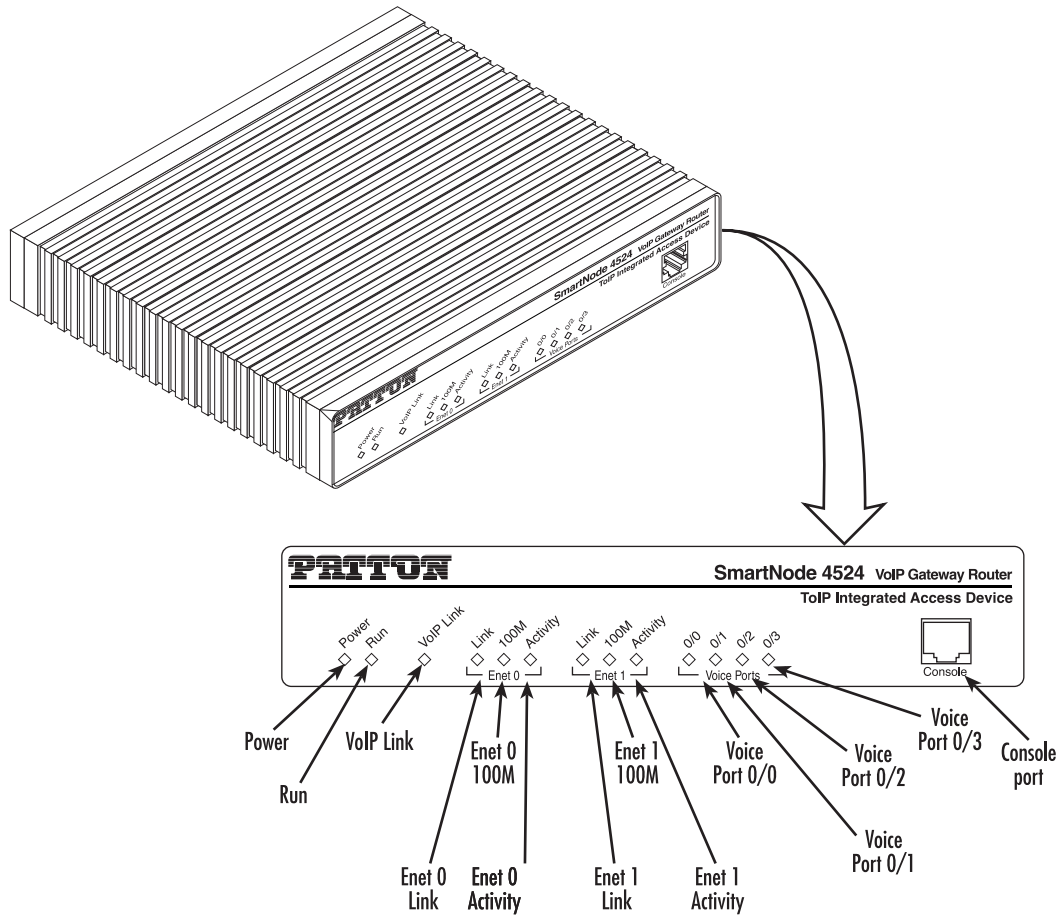

Figure 19. Router front panel LEDs and Console port locations (SmartNode 4524 shown)
5. Verify that the green *Power* LED is lit (see figure 19).